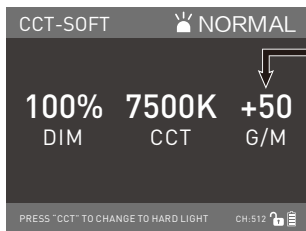

Figure 5
- (4) G/M setting: Rotate the "SELECT knob", clockwise to increase the G/M value while counterclockwise to reduce the G/M value. G/M shows the G/M values on the display, the G/M range is from -50 to +50. Press the "SELECT knob" to reset its value to +00. (As shown in figure 5).